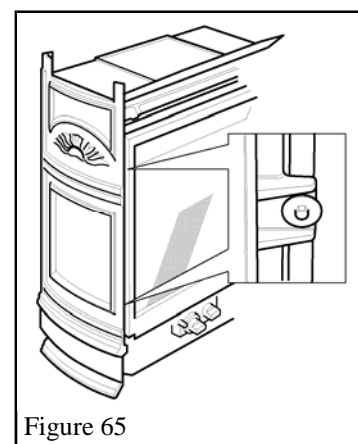

Figure 65
2. Fit the sides to the engine unit case with two machine screws and washers per side. See figure 65.